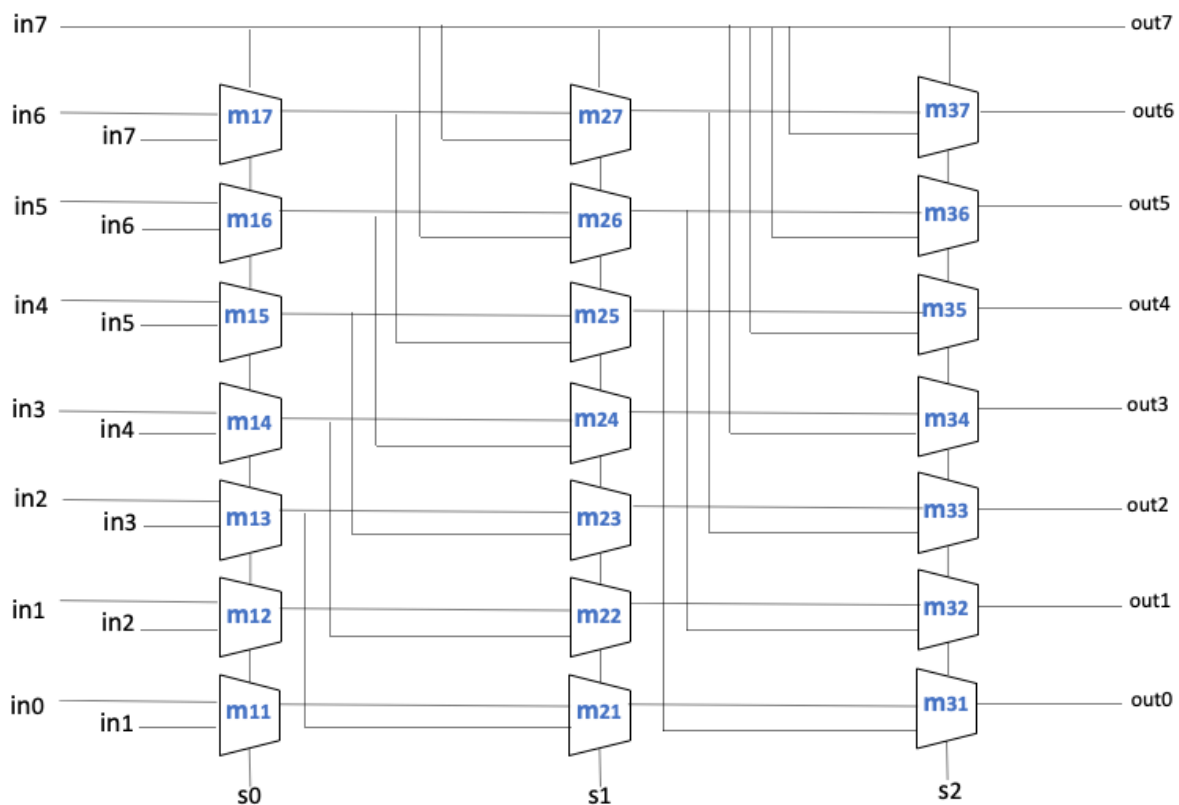

Fig.3:- implementation of Barrel shifter that performs logical right shift when input is 2's complement
- ❖ In the above implementation (Fig3), inp7 is directly sent as out7 indicating that MSB remains constant and the 2:1 MUXs are in such a way they shift each bit to left depending on the 3-bit sel line.